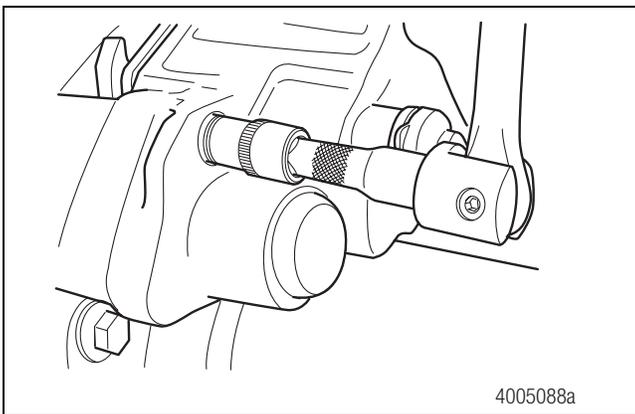

Figure 5.33
2. Support the bridge in position and install the four new bridge bolts. For the EX225L caliper, tighten the M14 bolts to 174-202 lb-ft (235-275 N•m). For the EX225H2 and EX225H3 calipers, tighten the M16 bolts to 221-253 lb-ft (300-350 N•m). Figure 5.33. If necessary, install the caliper assembly onto the axle. Refer to the procedure in this section.